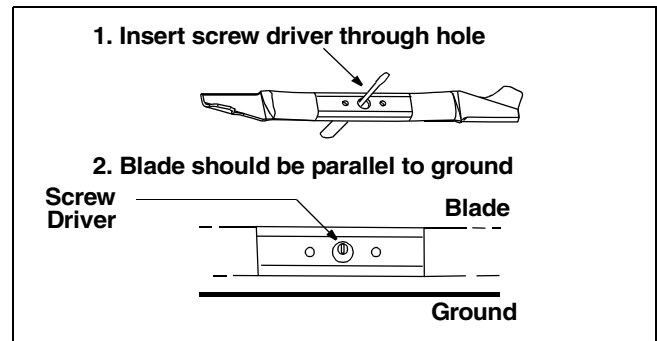

Figure 16
- The blade can be tested by balancing it on a round shaft screwdriver. See Figure 16. Remove metal from the heavy side until it balances evenly. It is recommended that the blade always be removed from the adapter for the best test of balance.